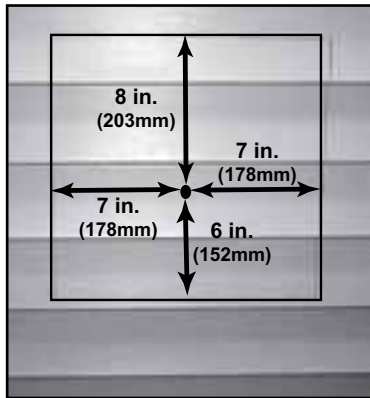

Figure 5.7
- (1) The four wood screws provided should be replaced with appropriate fasteners for stucco, brick, concrete, or other types of sidings.
- (2) A termination cap with a built-in vinyl siding standoff is highly recommended on a building with vinyl siding. The pilot hole will be 2 in. (51mm) closer to the bottom of the square than the top. Using a framing square, draw a 14 in. x 14 in. (356mm x 356mm) square around the pilot hole in the siding. See **Figure 5.7** on the next page.